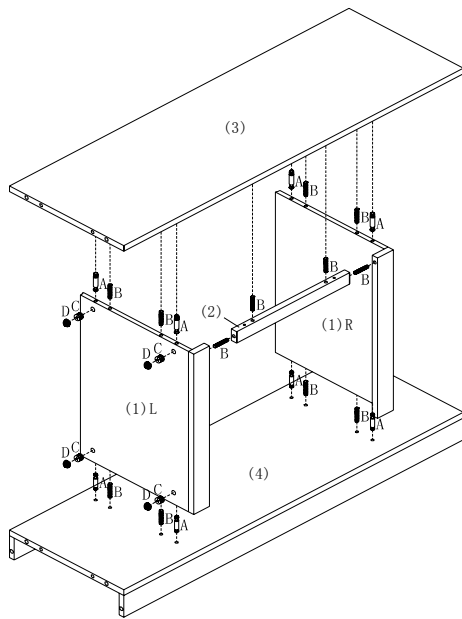

Figure 1
INSERT 8PCS CAM-BOLTS (A) AND 12PCS WOOD DOWELS (B) INTO PREDRILLED HOLES ON INSIDES OF MIDDLE FIXED PANEL (3), BOTTOM FRAME (4) AND MIDDLE FRONT PANEL (2), AND FIT INTO CORRESPONDING HOLES ON ENDS OF VERTICAL PANEL (R&L)(1). INSERT 8PCS CAM-LOCKS (A) INTO BIG HOLES ON INSIDE OF VERTICAL PANEL (R&L)(1), WITH SLOT FOR SCREWDRIVER FACING OUTWARD. ROTATE CAM-LOCKS (C) CLOCKWISE TO SECURE CAM-BOLTS (A). PUSH COVERS (D) INTO CAM-LOCKS (C). AS FIGURE 1 SHOWN.